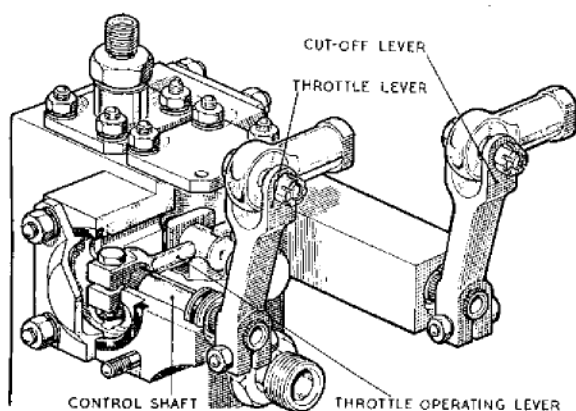

Fig. 3. Operating linkage
26. To facilitate replacement of the seal in the following operations a locally made tool on the lines indicated in fig. 3 should be used.
as shown in fig. 3, press the seal and distance piece into position.